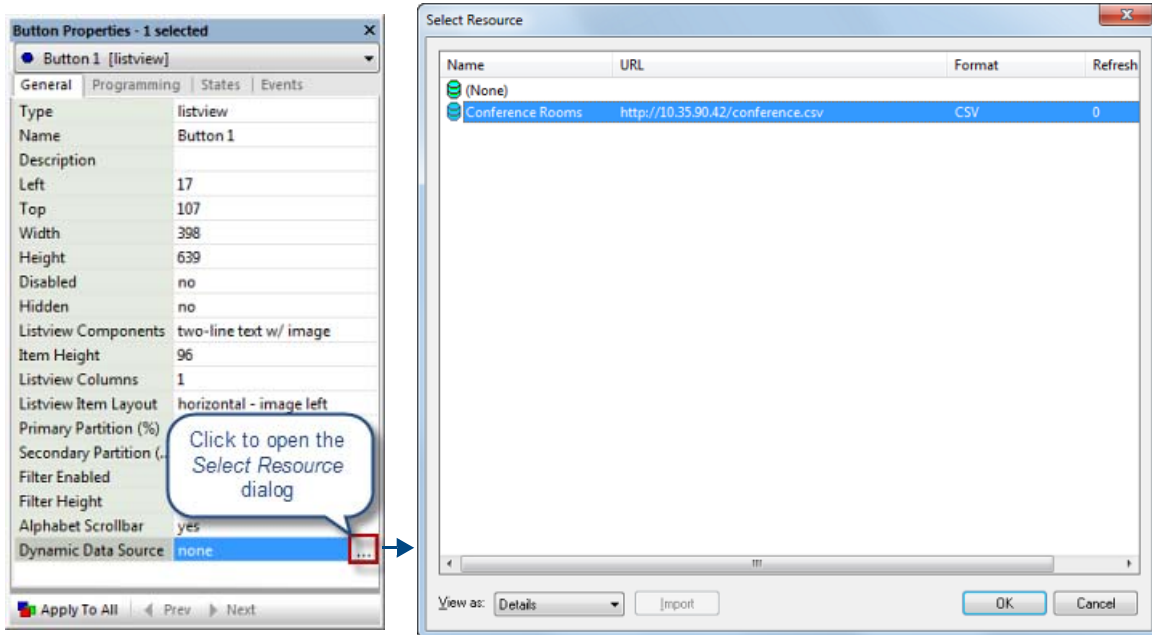

FIG. 171 Dynamic Data Source (General) Property and Select Resource dialog
1. With the Listview button selected, click the browse button in the **Dynamic Data Source** (General) property to open the *Select Resource* dialog (FIG. 171):